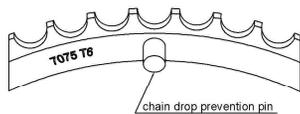

Fig.2
- With the FSA Logos and printed surface facing out, position the larger chainering so that the chain drop prevention pin is located behind the crank arm. For cranks with bashguards instead of outer chainrings, assemble with FSA Logos facing out. (Fig.2)